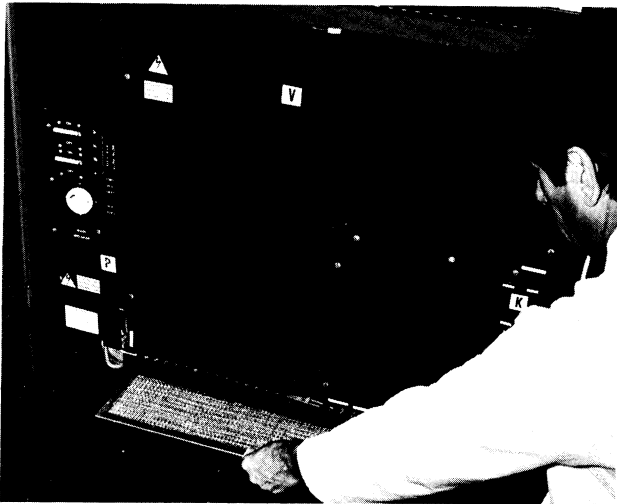

Figure 3-31. Filter Replacement
3. Remove two filters which are located at bottom of cabinet (Figure 3-31).
3. Remove two filters (Figure 3-31).